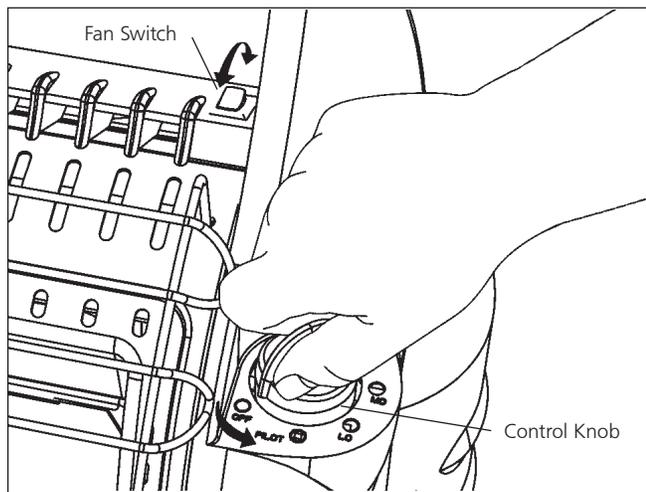

Figure 1
1. Make sure five-position Control Knob is in "OFF" position; see Figure 1.
11. For added heat circulation turn red fan switch to on. The fan switch is located just left of control knob side handel support. See Figure 1.
1. Make sure five-position control knob is in "OFF" position. See Figure 1, at left.
12. For added heat circulation turn red fan switch to on. The fan switch is located just left of control knob side handel support. See Figure 1.